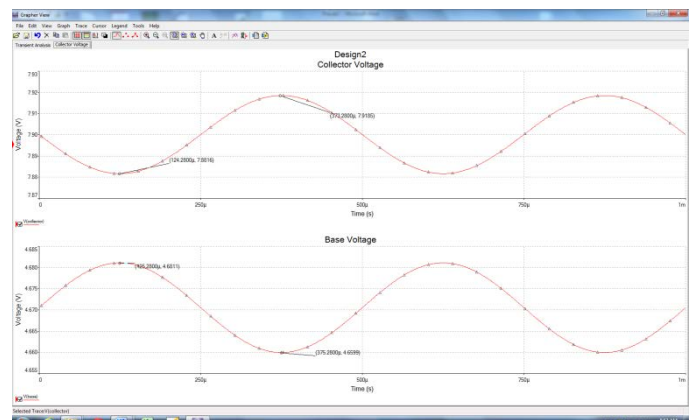

Figure 6: Your voltage waveforms should look like this.
- Run a transient analysis with the output set to base voltage only. Then rerun the simulation for the collector voltage only. Copy the base voltage output graph to the same page as the collector voltage so that your graph looks like the one in figure 6.